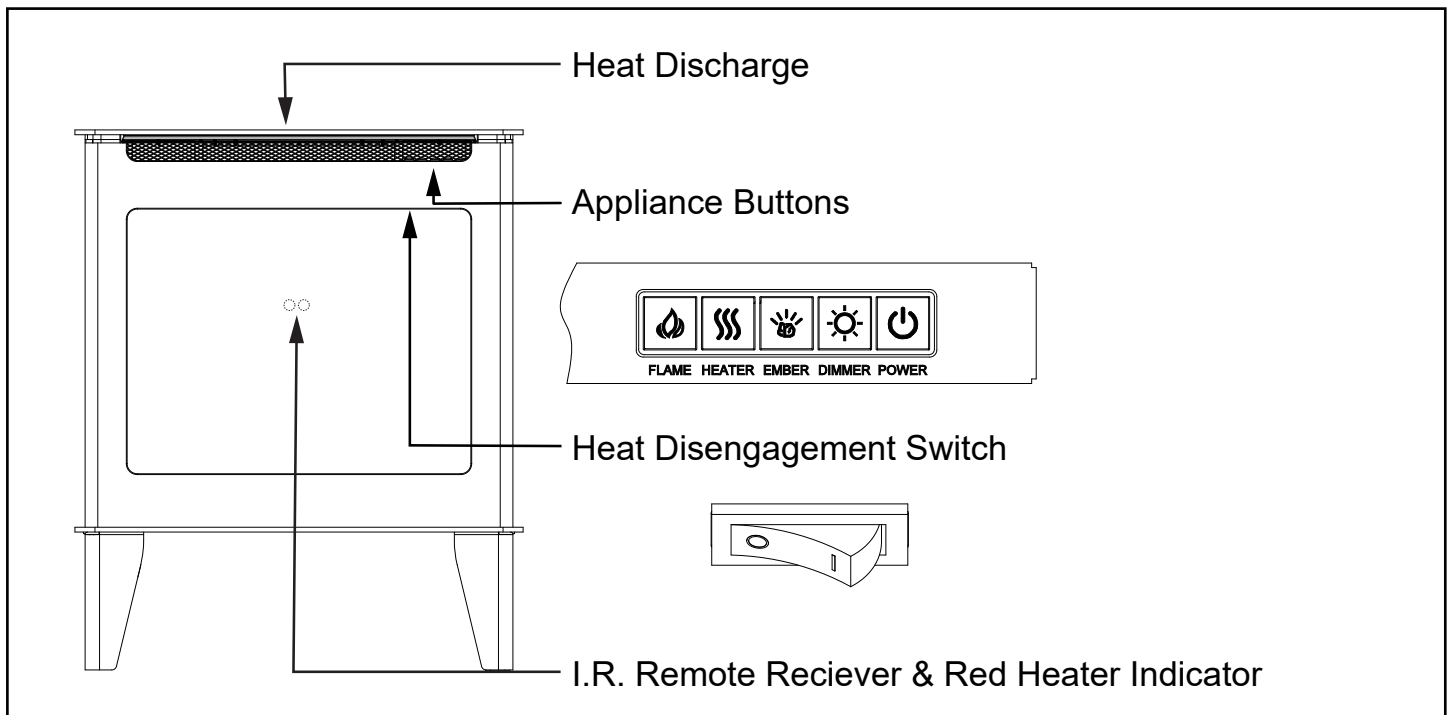

Figure 5.1 - Buttons and Heat Disengagement
The appliance can be operated by both remote control and touch control buttons. Once the appliance has been properly connected to a grounded electrical outlet, turn on the power button located on the upper right side of the appliance. A beep should be heard when the power is first applied. See Figure 5.1.
- Press the heater button to turn ON. The appliance will beep, illuminate one LED (see Figure 5.1), and turn the heater on LOW heat setting.
The appliance is equipped with a heat disengagement switch. This switch disables the use of the heater and will prevent it from being turned on by the remote or manual heater button. The switch is located behind the front viewing glass and is on the ceiling inside the appliance. See Figure 5.1. Refer to Section 4 for glass removal.